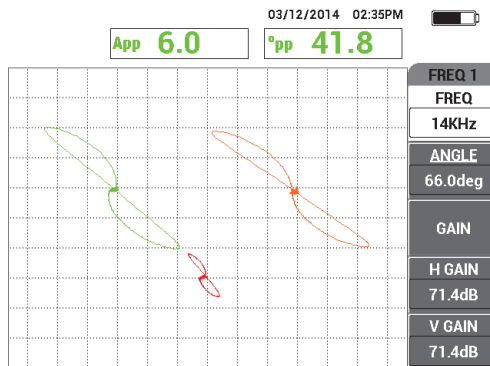

Figure 5-146 The scan of the thru-wall hole
16. Place the probe next to the thru-wall hole, press the NULL foot switch, and then scan the hole using a pulling motion (see Figure 5-146 on page 229).